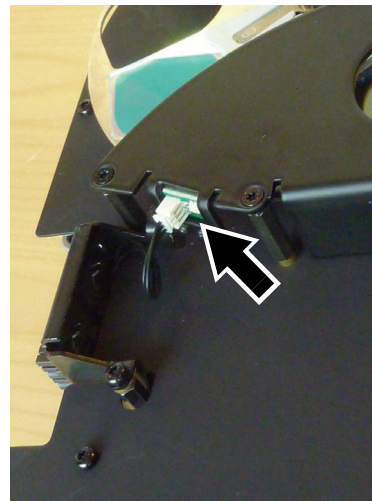

Figure 26
31. See Figure 26. Connect the multiconnector to the sensor PCB on the new aperture plate.